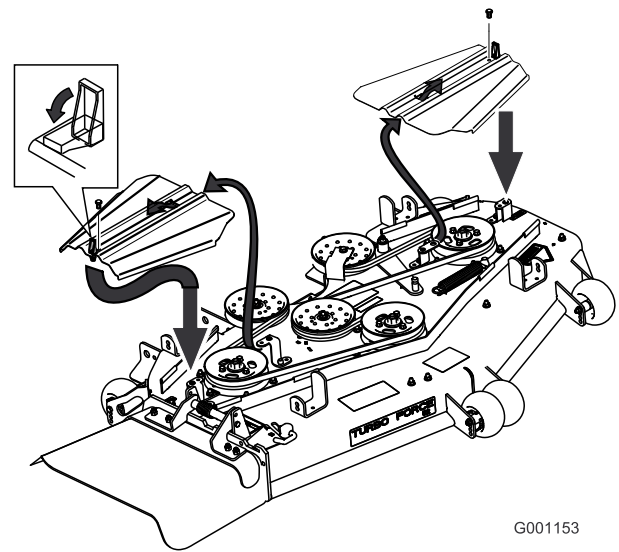

Figure 65
3. Remove the bolts holding the belt covers and remove the belt covers (Figure 65).
9. Install the belt covers by sliding the cover into the tab, install the bolts, and close the latches (Figure 65).